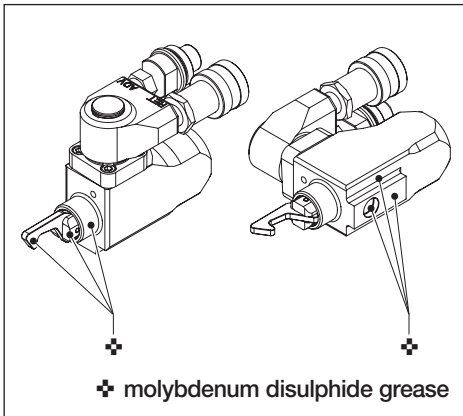

Fig. 15
5.2 Preventative Maintenance - Hydraulic Swivel and Drive Unit (Fig. 15 and 16)